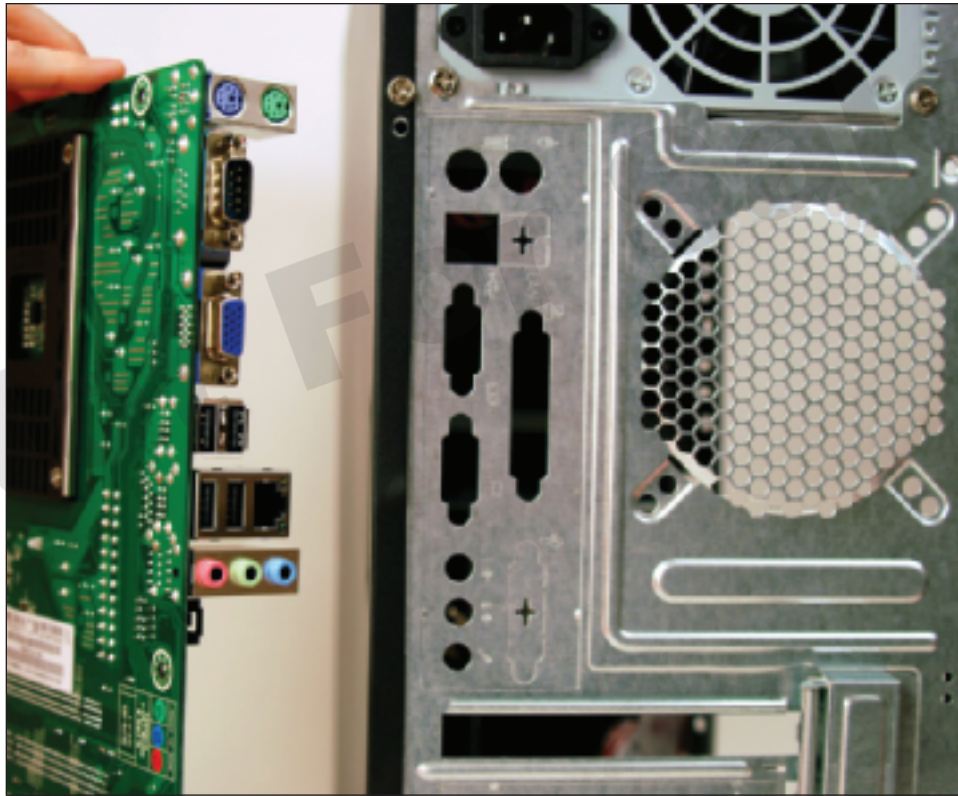

Figure 3-43 The computer case comes with an installed I/O shield but it does not match up with ports on the motherboard
1. Install the I/O shield, which is a metal plate that comes with the motherboard and fits over the ports to create a well-fitting enclosure for them. A case might come with a standard I/O shield already in place (see Figure 3-43). But when you hold the motherboard up to that shield, you can see the ports on the board will not fit into the holes. Remove this I/O shield (for this particular case, you have to punch it out). The I/O shield that comes packaged with the board can then be installed (see Figure 3-44).